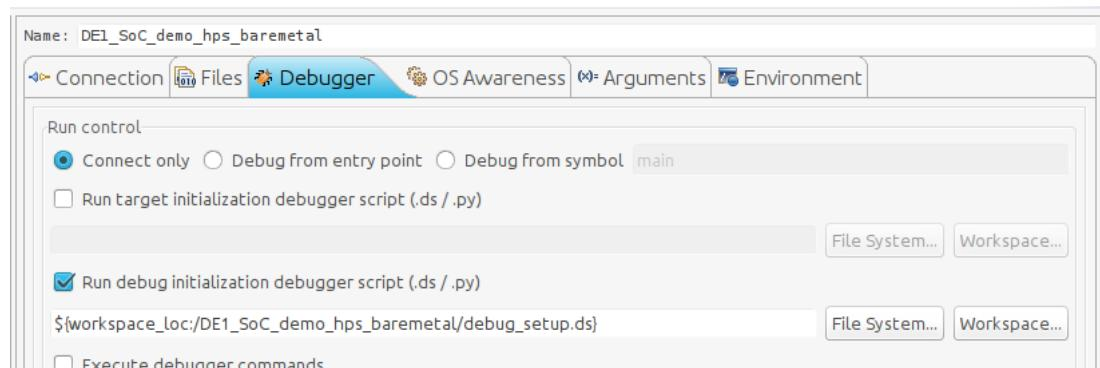

Figure 12-7. Debug Configuration "Debugger" Tab
- b. Enable the “Run **DEBUG** initialization debugger script (.ds / .py)” checkbox. Set the debug script to the one we defined for the project in 12.2.2. You should have something similar to Figure 12-7.